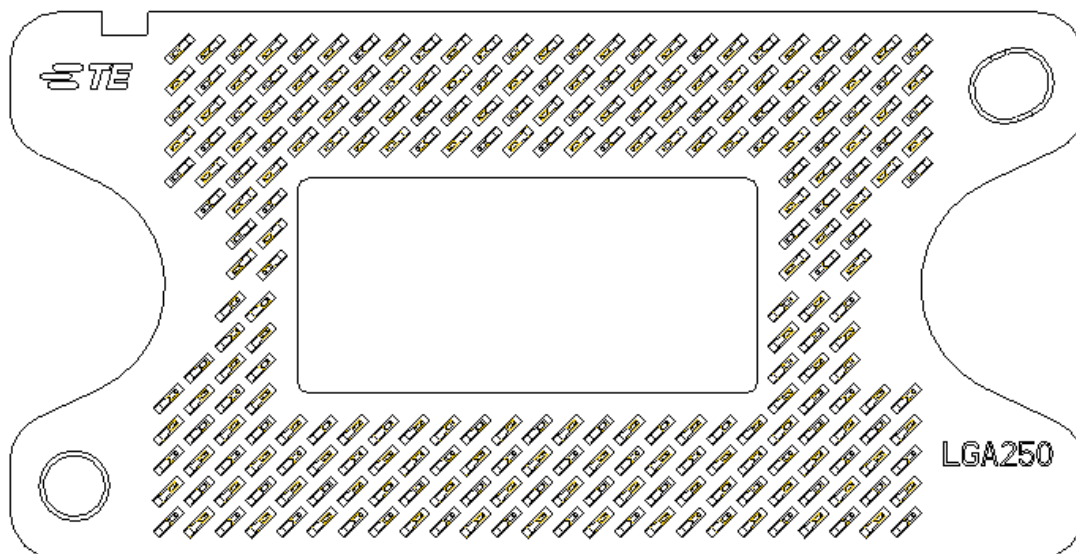

Figure 1
1.00x1.00mm pitch (X by Y) with a 45 degrees pattern and are arranged in single base housing as illustrated in Figure 1.
LGA250 socket provides elastic contact on bottom of socket to make contact to PC board. The housing holds an array of the contact. Please refer to figure 1.